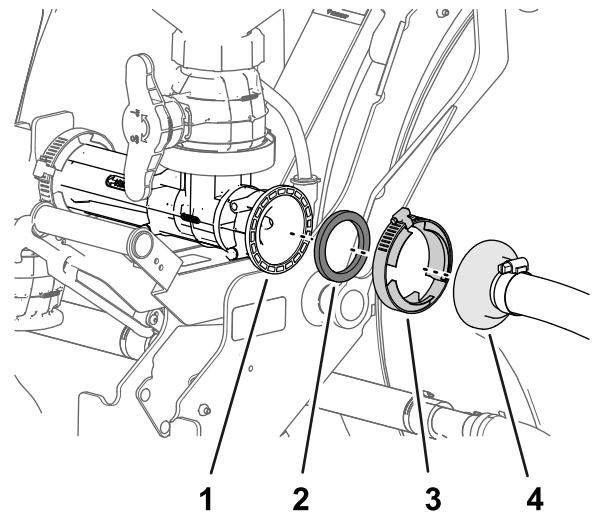

Figure 31
1. Loosely assemble the straight-barb fitting of the eductor supply hose onto the flange of the eductor with a gasket and flange clamp (Figure 31).